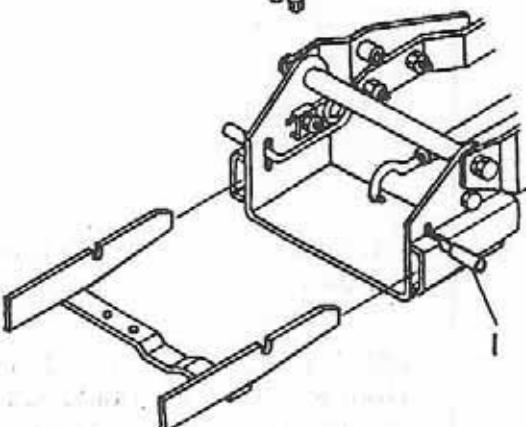

FIGURE 9
- Attach the snowblower to the tractor subframe by placing the male hitch flat bar into subframe's female channel hitch (fig. 9). Be sure the male hitch is entered to its maximum and is locked by the springs.
- a) Attach broom to the tractor subframe by placing the male hitch flat bar into the subframe's female channel hitch (fig. 9). Be sure the male hitch is entered to its maximum and is locked by the springs.